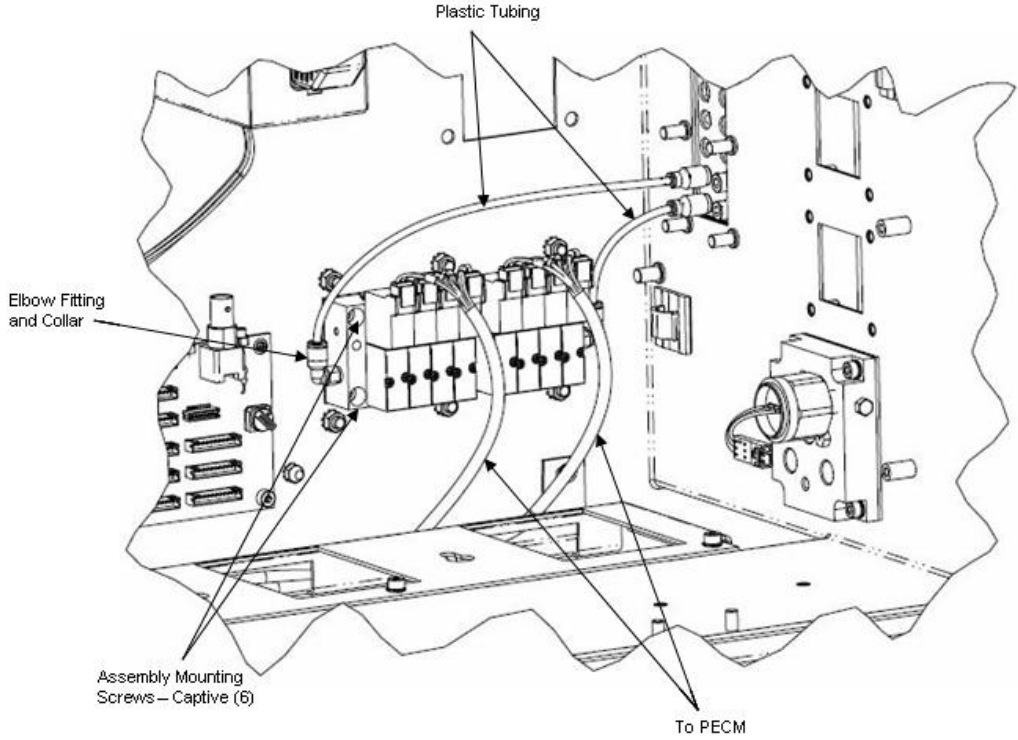

Figure 4-16: New SVCM Installed
1.	<p>Remove the tubing from each right angled elbow fitting. These fittings are located on the left and right side of SSR mounting assembly. Refer to Figures 4-16 and 4-17.</p> <p>(Old SVCM) To remove hose from fitting, pushup on fitting collar then pull tubing from fitting. After tubing is removed, collar will return to its original position.</p> <p>(New SVCM) To remove hose from fitting, pull tubing from fitting while pushing in on orange fitting collar.</p> <p>Note: For ease in removing tubing from collar, the right angled fittings can be rotated for easier access to collar.</p>